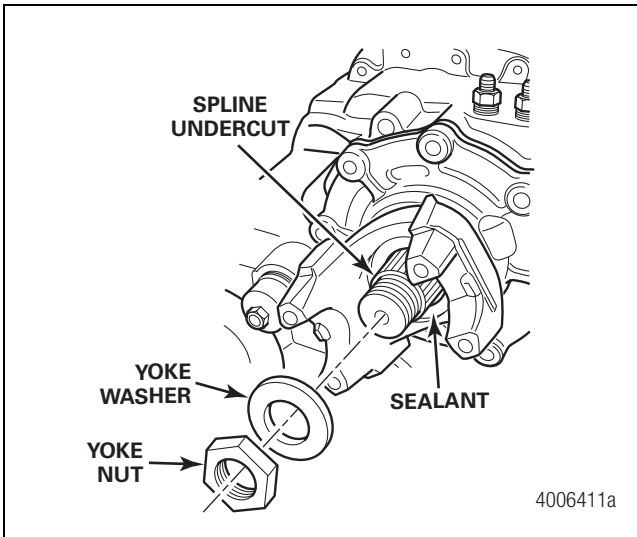

Figure 6.35
10. Apply a 1/8-inch (3.175 mm) bead of Silastic RTV 732 sealant 360 degrees around the inner surface of the yoke. Figure 6.35.